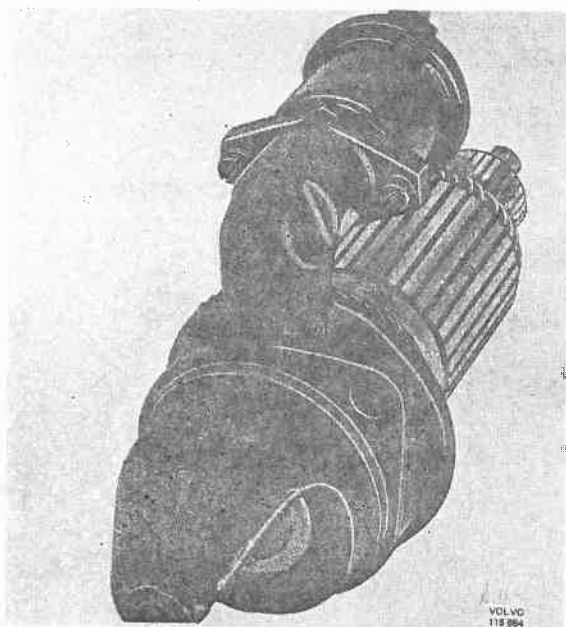

Fig. 33-12. Drive end bearing shield and armature
5. Separate the armature and the drive end bearing shield from the starter motor housing, Fig. 33-12.